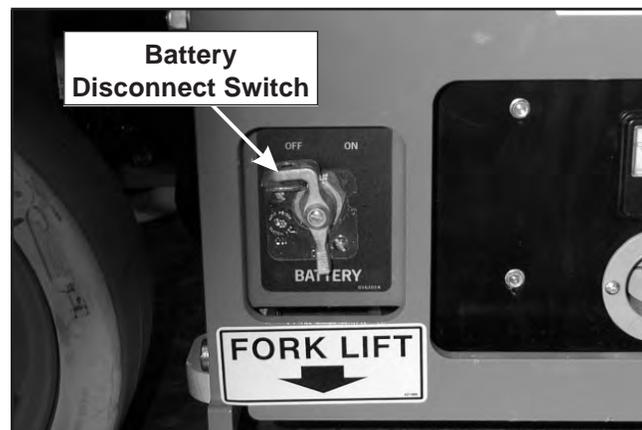

Figure 6.1—Battery Tray
1. Turn the battery disconnect switch off (refer to Figure 6.1). The switch is next to the latch on the battery tray.
3. Plug the charger into a properly grounded outlet (115 volt AC, 60 Hz) using a 3 conductor, 14 gauge or larger extension cord. The extension cord must be as short as possible and in good electrical condition. The charger will turn on three to five seconds after a complete electrical connection is made. The ammeter (refer to Figure 6.1) will indicate near 20 amps initially then taper off to 5 to 10 amps as the batteries charge.